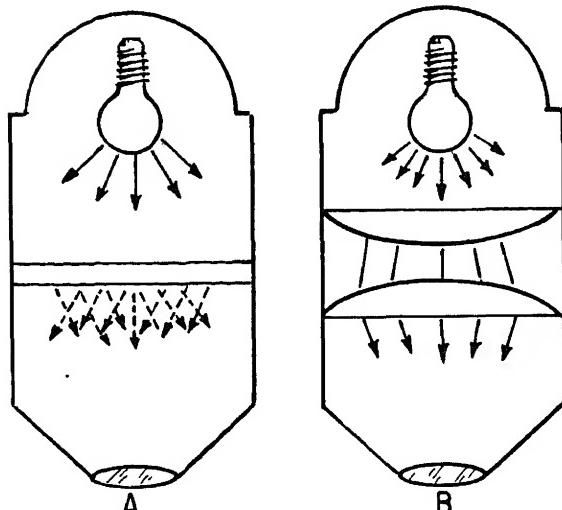

Figure 7A.--Enlargers
- In answering questions 7-3 through 7-7, refer to figure 7A.